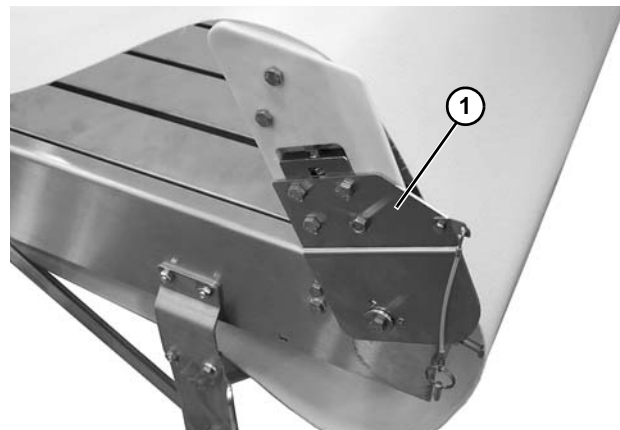

Figure 50
4. Tip up tail (Figure 50, item 1).